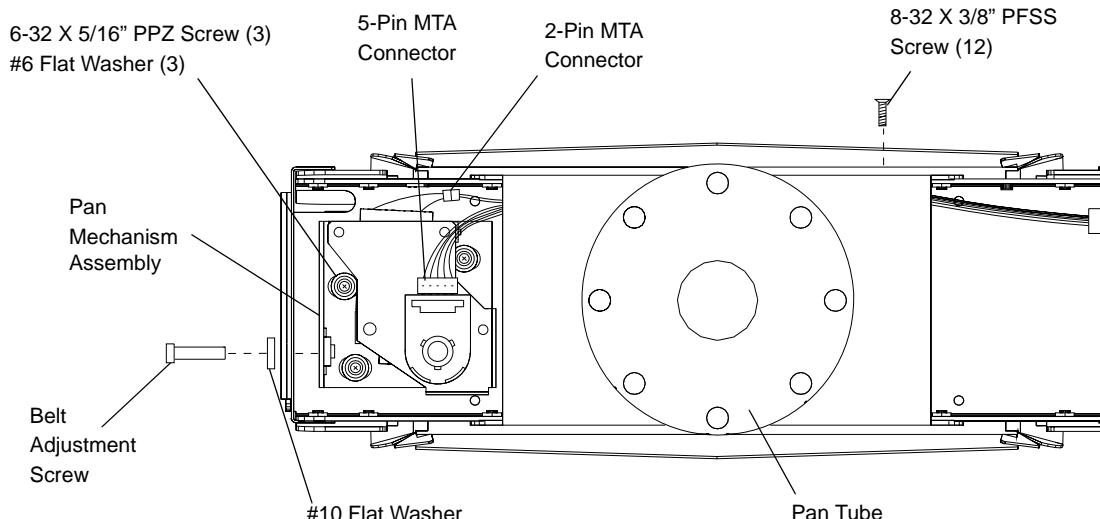

Figure 2-29: Disconnecting Pan Mechanism Assembly
- Step 8. Remove pan mechanism. **Figure 2-29**.